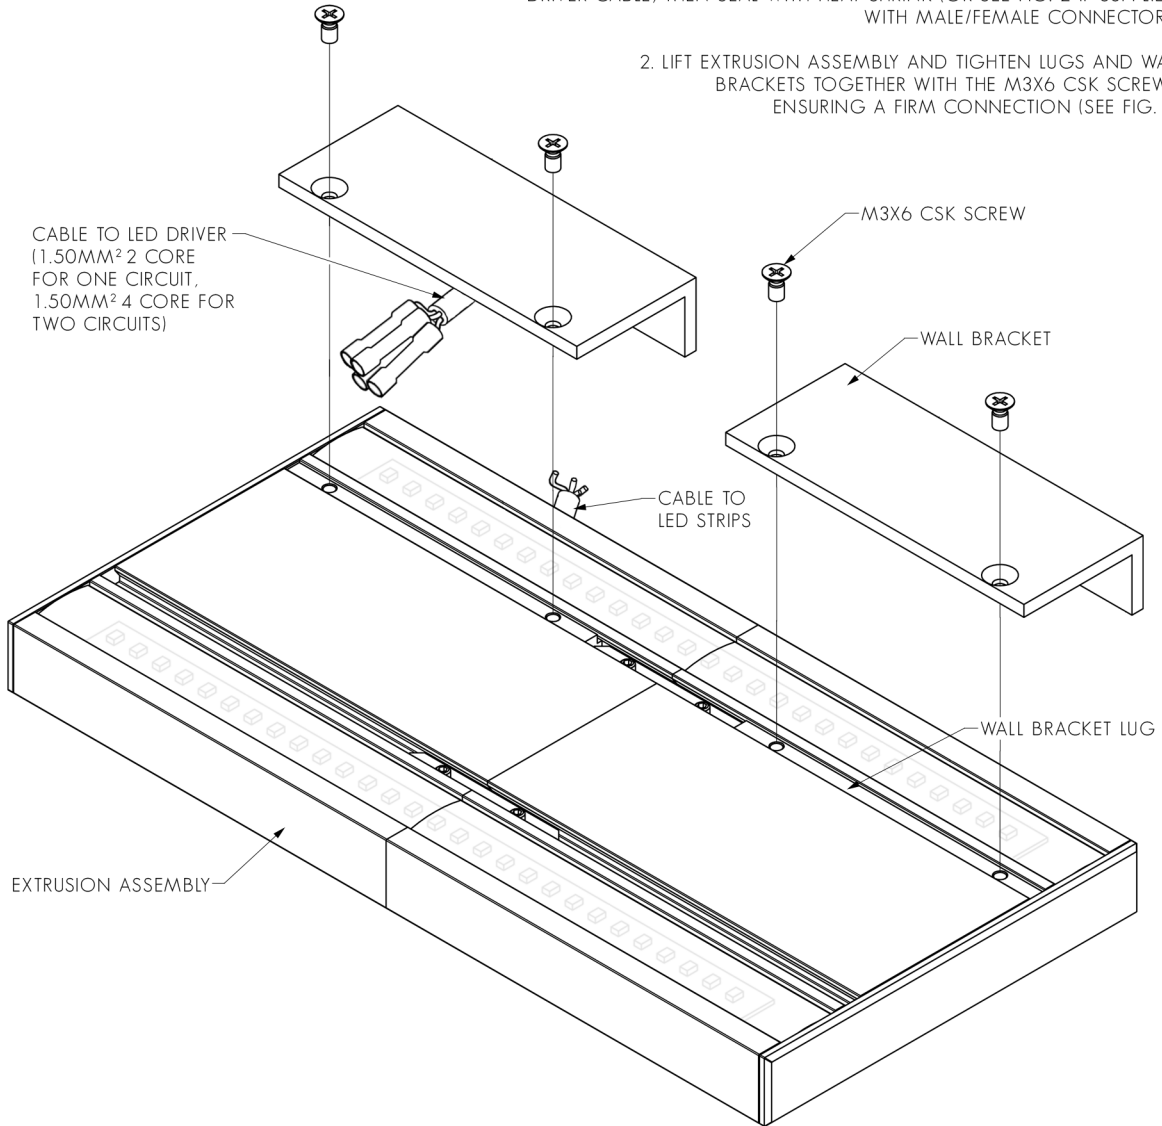

FIG. 3 - ENSURE EXTRUSION IS MOUNTED SECURELY
2. LIFT EXTRUSION ASSEMBLY AND TIGHTEN LUGS AND WALL BRACKETS TOGETHER WITH THE M3X6 CSK SCREWS, ENSURING A FIRM CONNECTION (SEE FIG. 3).